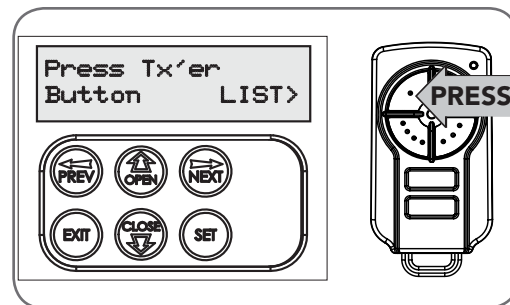

Fig 10.3
- d. Press the transmitter button you wish to use to operate the Gate Opener (e.g. button 1) (Fig. 10.3).